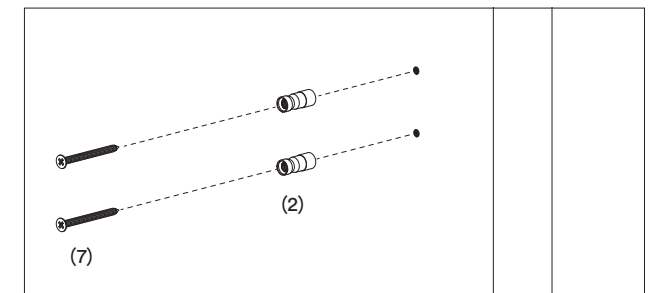

Figure 5.
- 3.3. Drill 2mm pilot holes for the screws and affix the pencil spindles to the door with screws provided. (Figure 5)